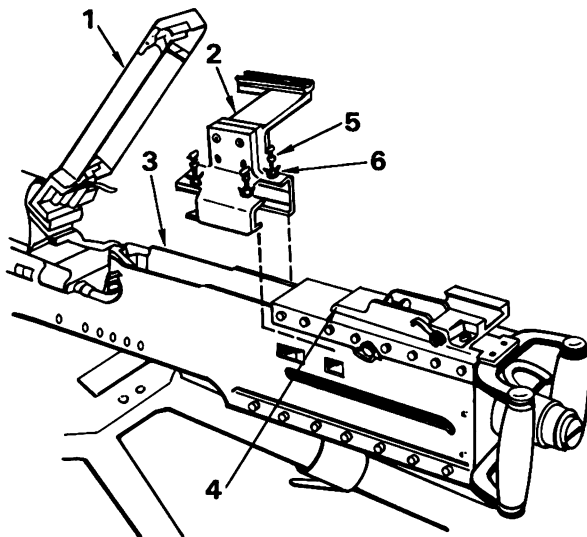

Figure 1.
1. To mount the AN/TVS-2 mounting bracket to the caliber .50 machinegun (see figure 1), begin by clearing the gun. Raise the cover (1). Loosen the four wingnuts (6) and four thumbscrews (5) on the weapon adapter bracket. Insure that the thumbscrews clear the bottom of the bracket. Slide the bracket (2) into the receiver group (3) with the cutaway portion toward the rear sight of the machinegun. Insure that the bracket is far enough to the rear so that the cover will close (4). Tighten the four thumbscrews (5) securely, then tighten the four wingnuts (6) to lock the bracket in place.